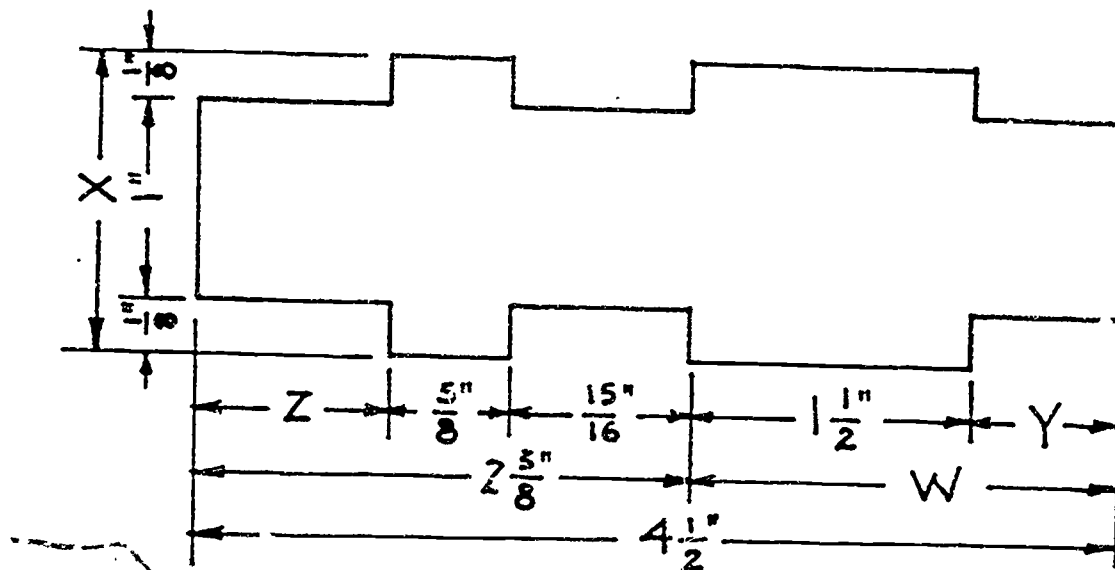

Figure 8: Solve for w , x , y and z .
6. You were given the front view sketch of a machined part as shown in Figure 8. You are to find the lengths of the parts labeled w , x , y and z .